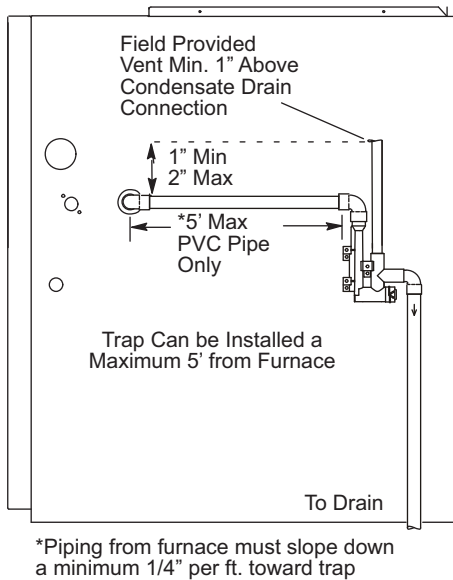
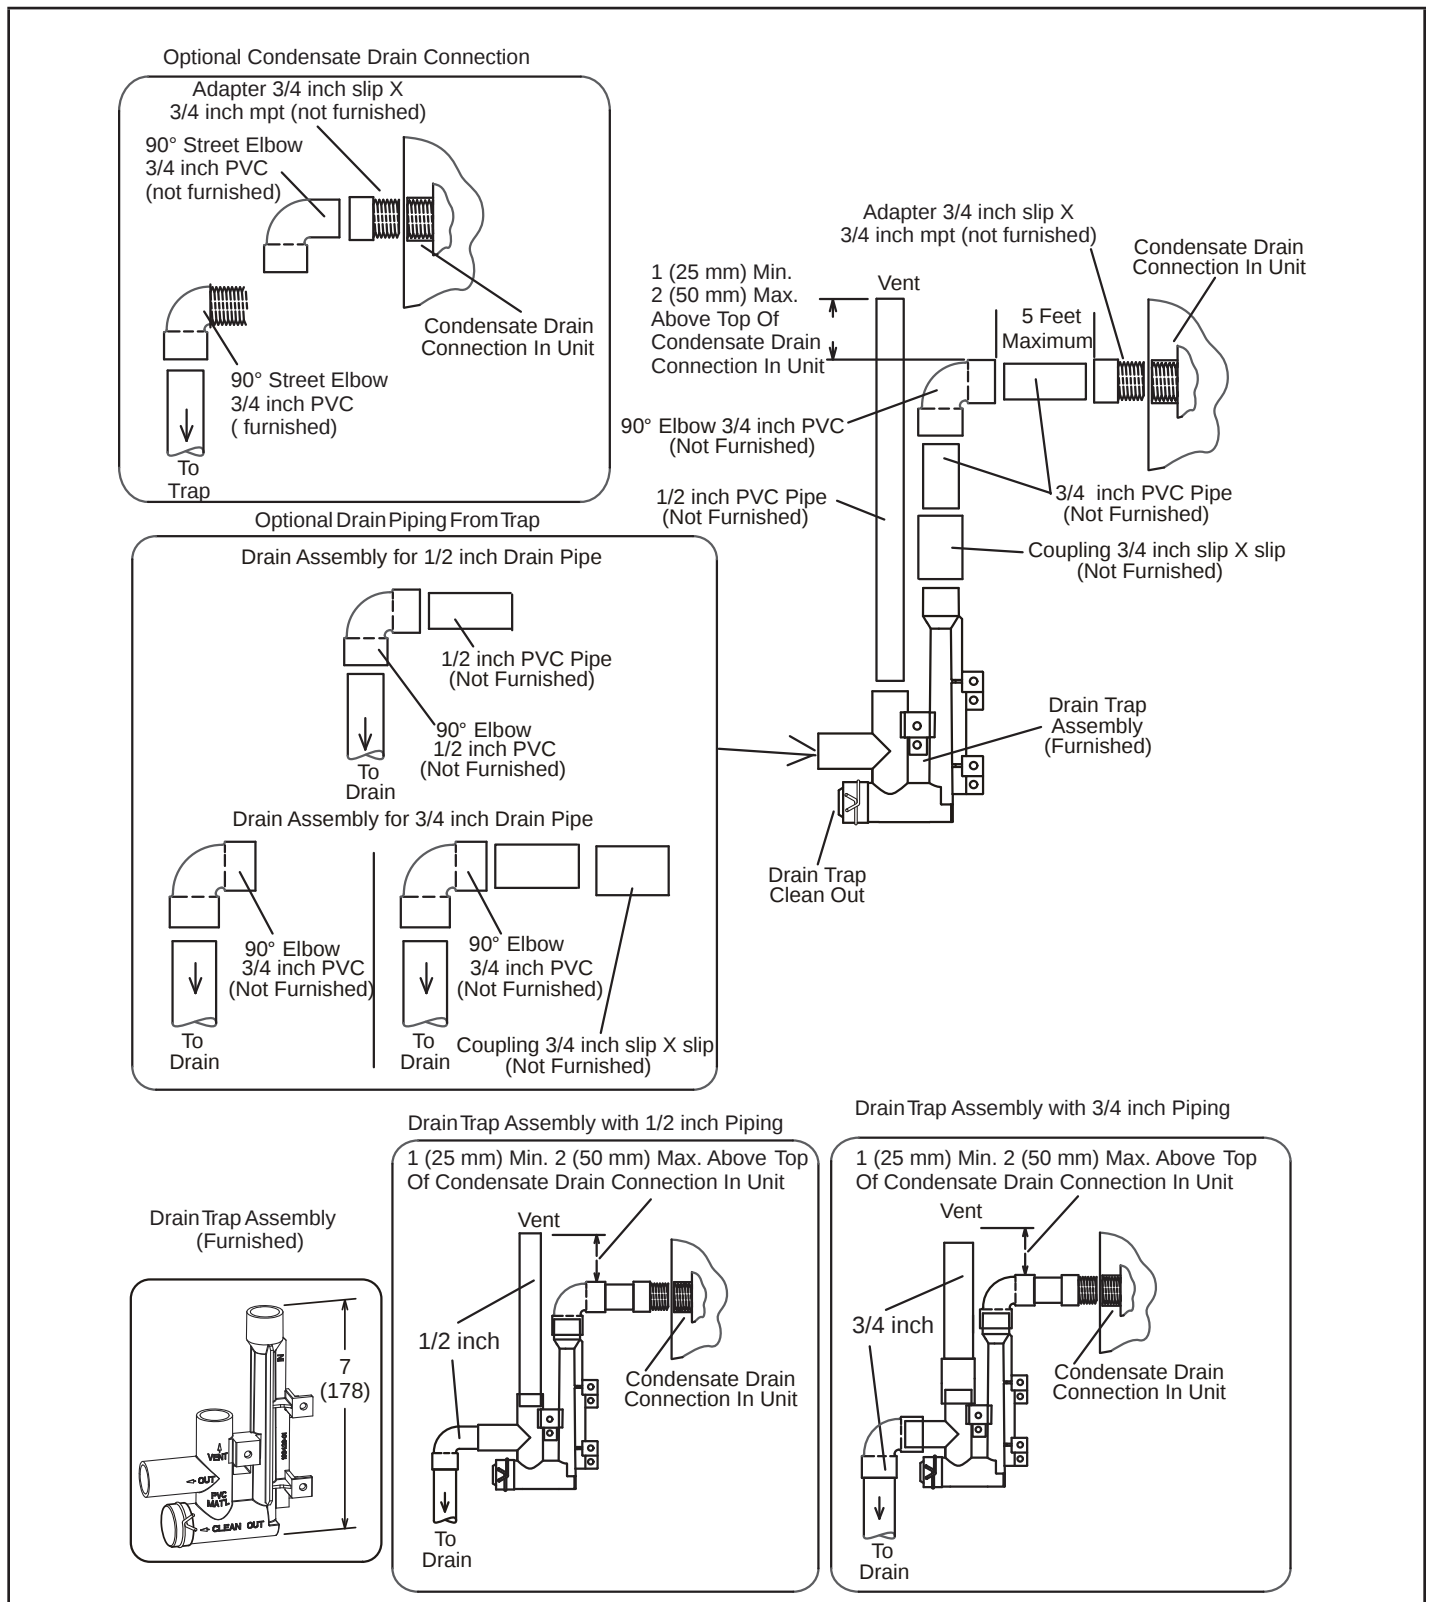

Figure 43. Condensate Trap Locations
Figure 49. Trap/Drain Assembly Using 1/2" PVC or 3/4" PVC
This unit is designed for either right- or left-side exit of condensate piping in upflow applications. In horizontal applications, the condensate trap must extend below the unit. An 8" service clearance is required for the condensate trap. Refer to **Figure 41** and **Figure 43** for condensate trap locations. **Figure 49** (3/4" drain connection) and **Figure 41** (1/2" drain connection) show trap assembly using 1/2" PVC or 3/4" PVC.
3. Install the cap over the clean out opening at the base of the trap. Secure with clamp. See **Figure 49**.
4. Install drain trap using appropriate PVC fittings, glue all joints. Glue the provided drain trap as shown in **Figure 49**. Route the condensate line to an open drain. Condensate line must maintain a 1/4" downward slope from the furnace to the drain.